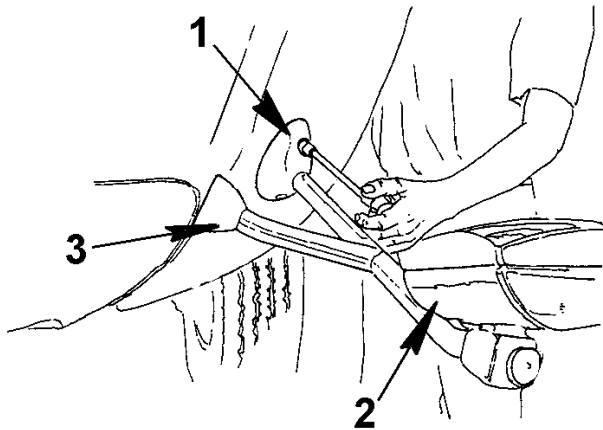

Figure 66 Fender Mounted Mirror Assembly — Install
2. Insert the mounting bolts through the bracket base and fender section. Install the flat washer and lock nut on the underside of the fender section and hand tighten (Figure 66, Item 1).